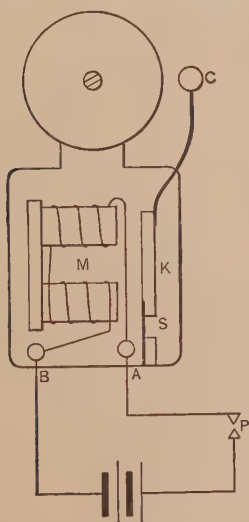

FIG. 186. Single-stroke electric bell.
**109. Single Stroke.** The simplest single-stroke bell is constructed as in Fig. 186. When the button *P* is pushed, the battery sends a current through the coils of the electro-